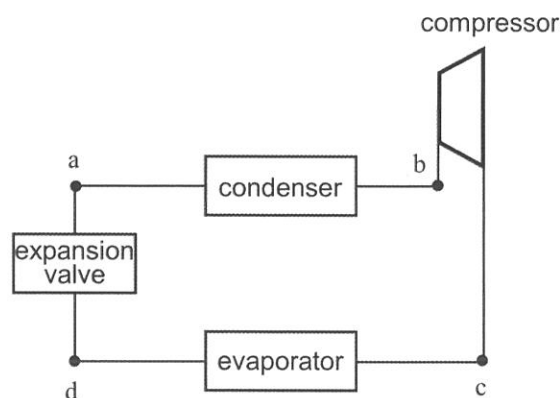

Figure 1-1
I. Consider an ideal vapor-compression refrigeration cycle without loss except at the expansion valve, as shown in Figure 1-1. Each thermodynamic state at the positions a, b, c and d in Figure 1-1 is constant. The working fluid is saturated at the outlets of the condenser and the evaporator. The working fluid is wet vapor at the inlet of the evaporator and is superheated vapor at the inlet of the condenser. For simplicity, superheated vapor is assumed to be an ideal gas with the gas constant R and the isobaric specific heat c_p . The specific entropy, specific enthalpy, pressure and temperature of the working fluid are s , h , p and T , respectively.
- (1) Draw the $p - h$ diagram and the $T - s$ diagram of this cycle together with saturated liquid and vapor lines of the working fluid, and indicate the points in both diagrams that correspond to each thermodynamic state at a, b, c and d.
- (2) Express the temperature T of the superheated vapor in the condenser as a function of specific entropy s . Show the derivation process too. Here, use a, b, c or d as a subscript to describe specific entropy s and temperature T at each position of a, b, c or d, such as T_a and s_b .